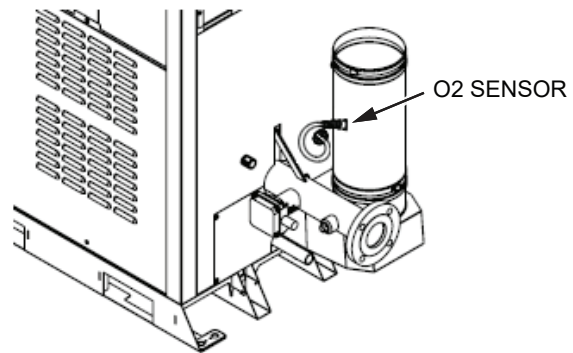

Figure 85. O₂ Sensor Location
- a. Install the vent with the O₂ sensor facing the boiler. Connect the O₂ sensor cable to the O₂ sensor. The O₂ sensor is installed in a tilted bung to prevent moisture build-up. See **Figure 85**.